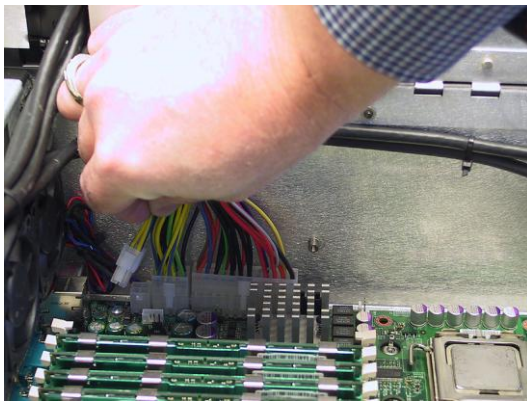

Figure 5-85
- 3) Disconnect the EPS12V 8-pin (4 x 2) power connector from the motherboard. Pull the connector up while using a flat-blade screwdriver to push the top of the release catch (facing the interior of the chassis) into the body of the connector (Figures 5-85 and 5-86).